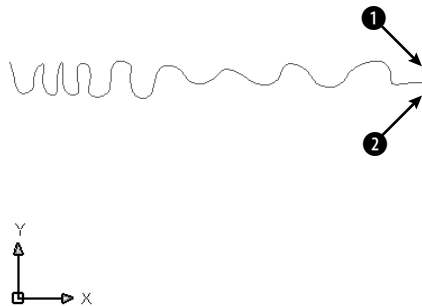

Figure 23-32: A spline.
2. Save it as ab23-06.dwg in your AutoCAD Bible folder. You see a spline, as shown in Figure 23-32. In this exercise, you use the spline to draw some drapes.
3. Mirror the spline. For the mirror line, turn on ORTHO and use ① and ② as shown in Figure 23-32. Don't delete the original spline.